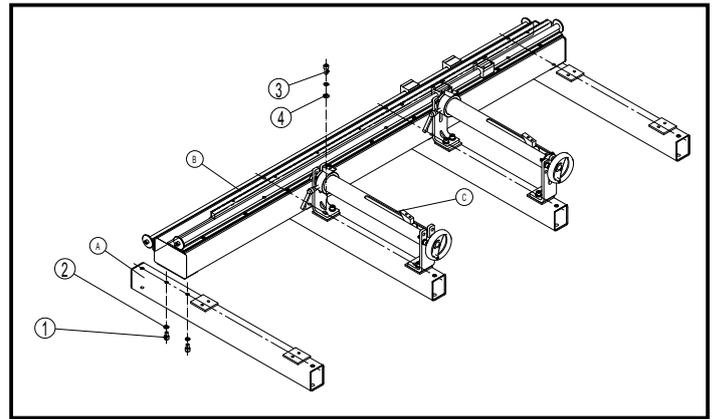

FIG.4.2.1
- Mount C onto A (as shown in figure 4.2.1) with eight hexagonal screws 3, eight washers 2 and eight flat washers,